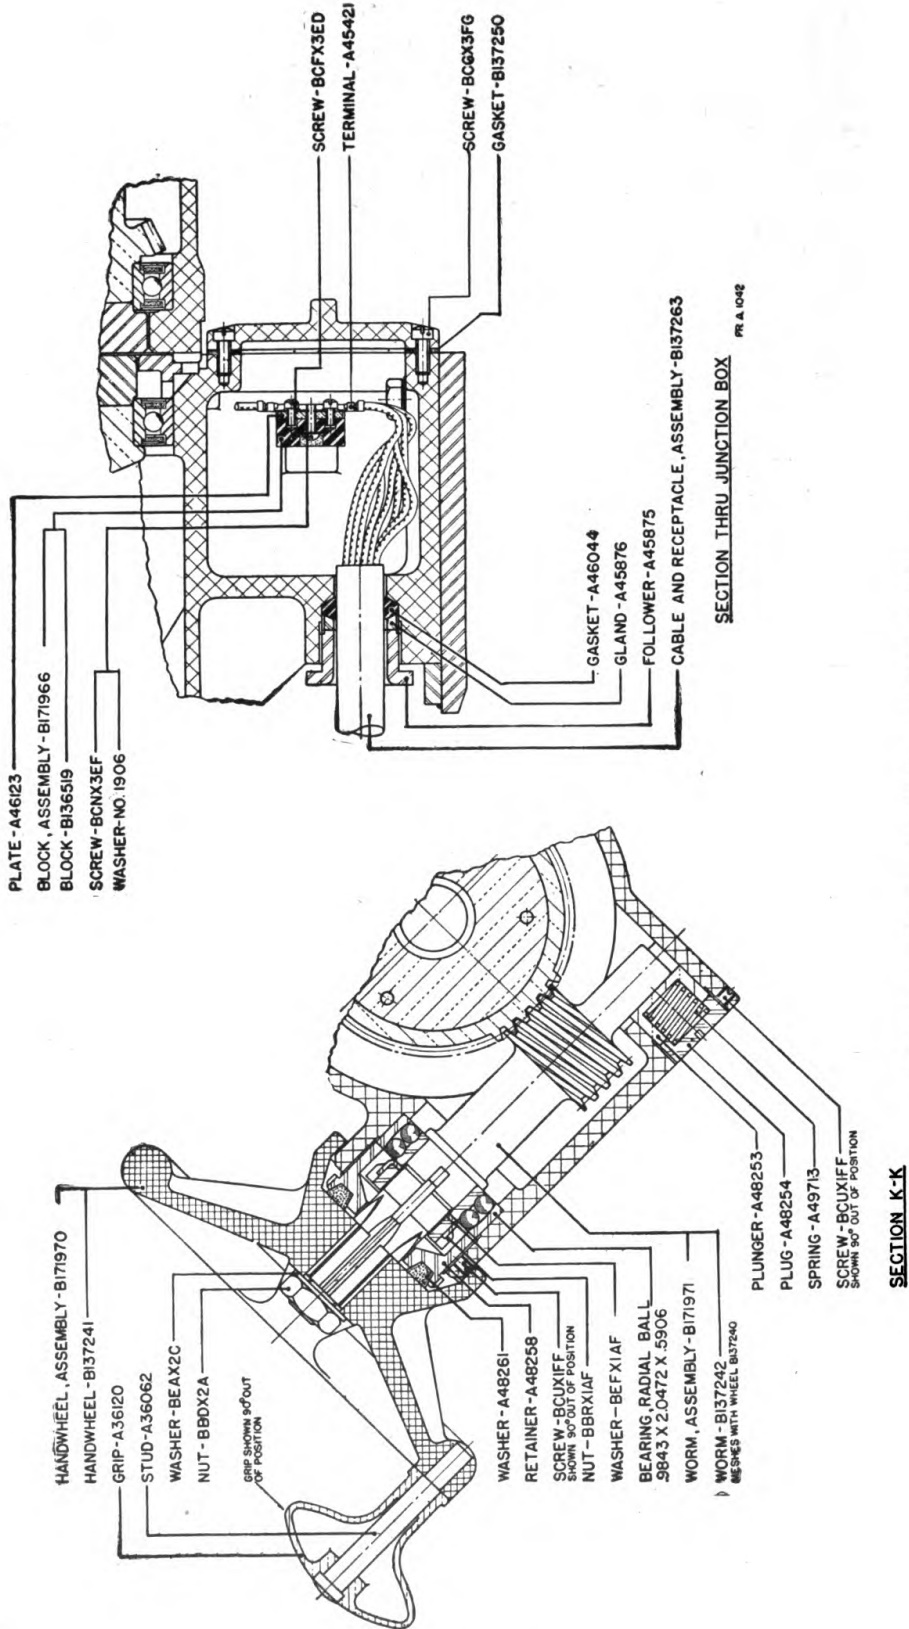

FIGURE 7.—Fuze setter T15—sectioned views.
c. The adjusting mechanism is contained in the lower portion of the case (D29073) beneath the fuze indicator. The adjusting ring (C69699) is rotated by means of the adjusting handwheel (B137241, fig. 7). Movement of the adjusting ring is transmitted to the fuze
(2) *To disassemble and assemble adjusting mechanism.*—(a) Remove handwheel assembly (B171970), secured by nut (BBDX2A, fig. 7). Loosen locking screw (BCUX1FF) which secures worm plunger plug (A48254) and remove worm plunger plug with plunger and spring. Unscrew worm bearing retainer (A48258). Remove worm assembly (B171971).